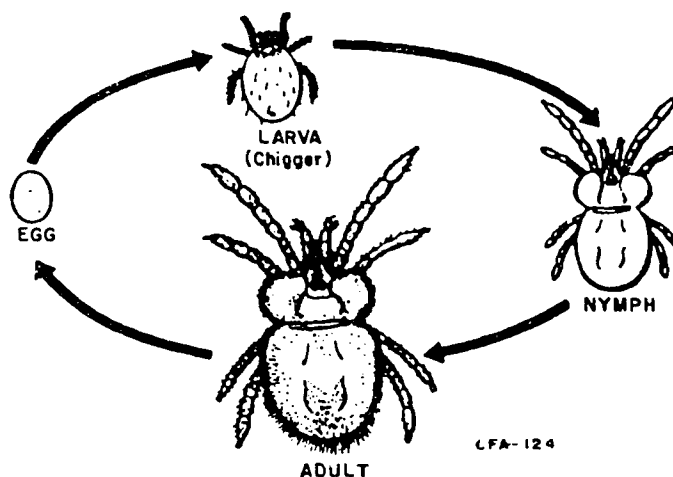

Figure 2-8. Life cycle of the mite.
**Mites.** Mites are found throughout most of the world and in practically all climates. Many mites feed on plants, but some feed on humans and animal. Mites lay eggs which hatch into six-legged larval mites. Certain mites feed on humans and animal only in this larval stage; these are commonly called chiggers. Larval mites develop into nymphs; and these, in turn, develop into adult mites (see fig. 2-8). Both nymphs and adults have eight legs.